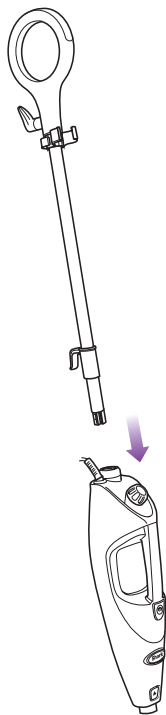

fig. 1
- 1 Insert the Mop Handle end with the “▼” facing the front of the unit into the handheld steamer. Push the mop handle in until you hear it click into place. (fig. 1)